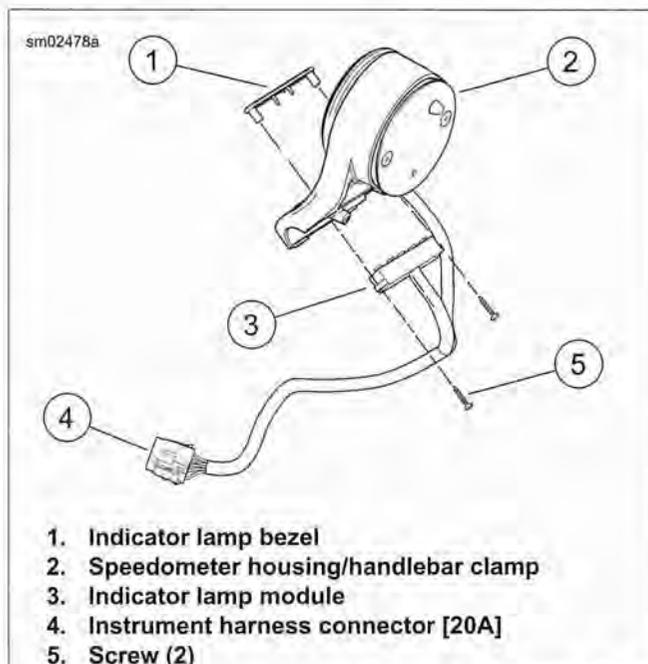

Figure 6-52. Indicator Lamps: XL 883L/N, XL 1200L/N, XL 1200CP (w/mini-ape handlebar)
2. See Figure 6-52. Holding speedometer housing/handlebar clamp (2), remove four screws securing housing/clamp assembly to handlebar risers.
3. Remove two screws (5) to separate indicator lamp module (3) from speedometer housing/handlebar clamp and the indicator lamp bezel.
8. See Figure 6-52. Assemble the indicator lamp bezel (1) and the indicator lamp module (3) onto speedometer housing/handlebar clamp (2). Secure with two screws (5).